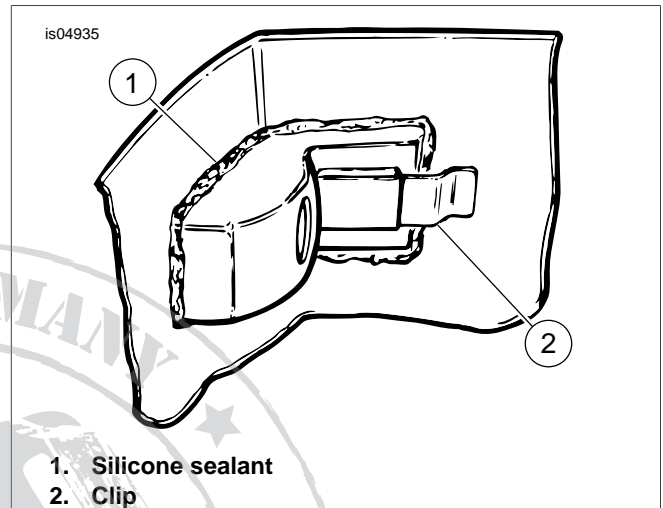

Figure 7. Clip Installation and Sealing the Housing
16. See Figure 7. At inside of Tour-Pak, insert clip (2) into slot in lamp housing with curved portion against side of Tour-Pak. Push clip or tap with rubber hammer until shoulder of lip is flush with lamp housing.